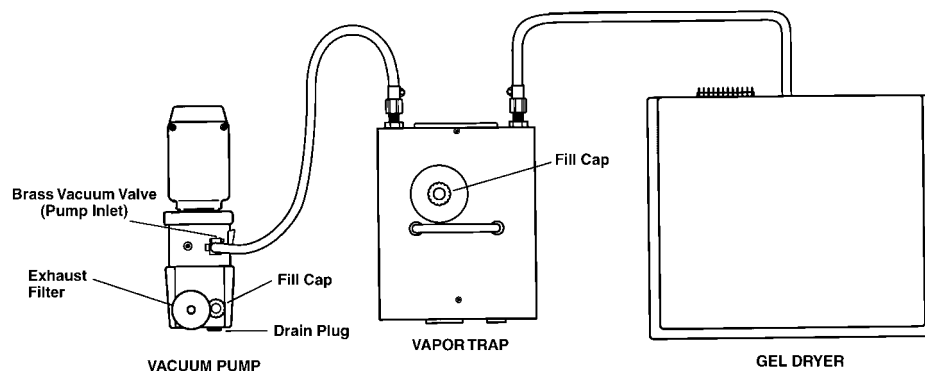

Fig. 3. Tubing connections - top view.
The Vapor Trap should be placed in a clean area with adequate space for adding and draining fluid and for access to vacuum connections. The area should be well ventilated. Free movement of air through the Vapor Trap is necessary for trapping to occur. Position the Vapor Trap between the Vacuum Pump and the gel dryer, as close as possible to these components, while maintaining sufficient space to perform routine maintenance such as draining trapped liquid (see Figure 3). When possible, we recommend that the Vapor Trap be set up at a lower level than the gel dryer to take advantage of gravity to move condensed liquid in the vacuum lines into the Vapor Trap's reservoir.
1. Remove the fill cap located on the top of the Vacuum Pump case (see Figure 3 for location).